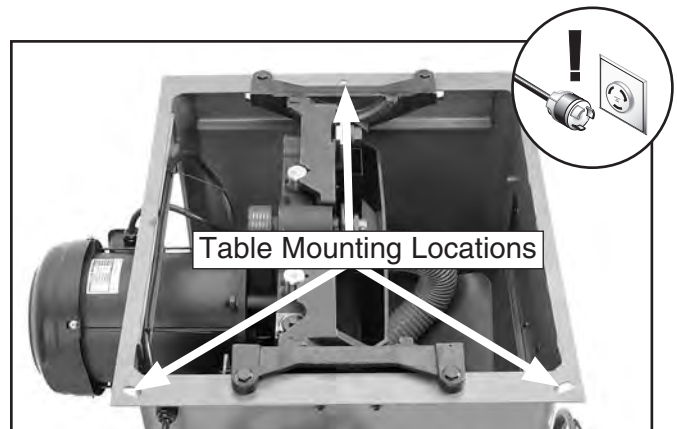

Figure 121. Table mounting bolt holes (table top removed for clarity).
7. To adjust the table, loosen the three bolts in the table mounting locations (see **Figure 121**) and lightly tap the table in the direction needed to square the table to the blade. Repeat **Steps 2-6** until the blade and miter slot are parallel. Do not forget to tighten the table mounting bolts when finished.
2. Loosen the three table mounting bolts (**Page 71, Figure 121**) and adjust the table until the blade does not contact the insert. Tighten all the mounting bolts.